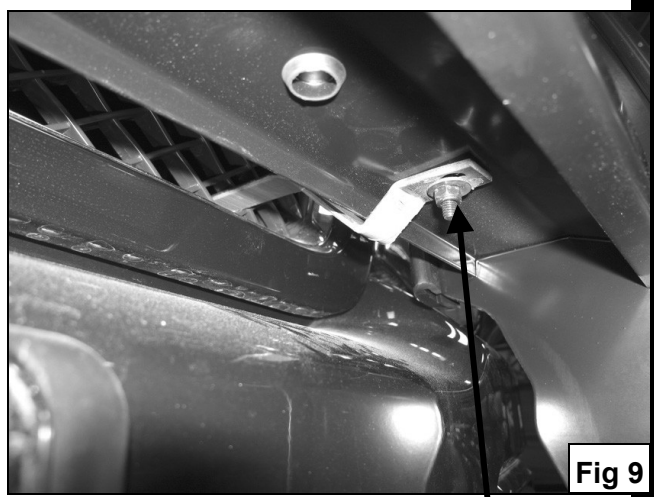

Fig 9
9. From underneath of Grille Guard's light bar, attach Top Brackets using the included (2) 6mm x 20mm Allen Bolts, (2) 6mm Nylock Nuts, and (4) 6mm Flat Washers (**Figure 9**).